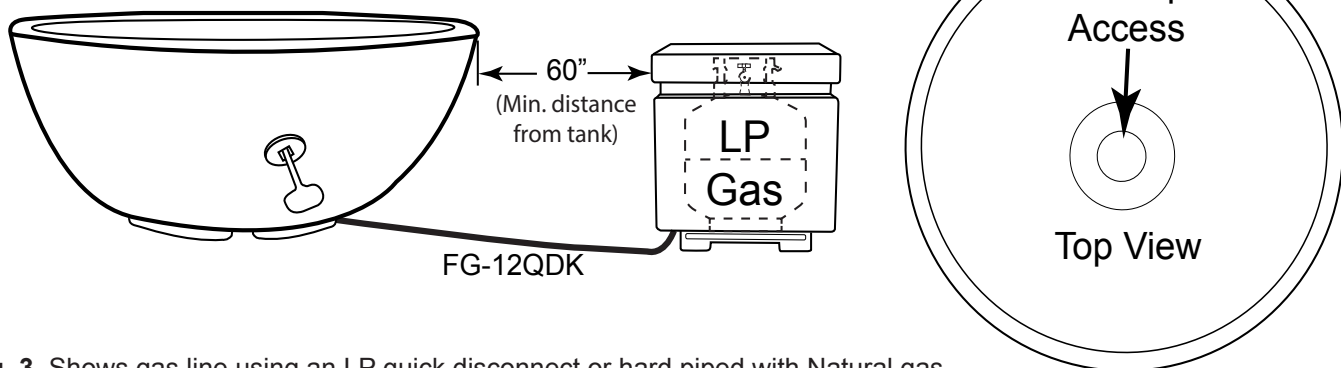

Fig 3. Shows gas line using an LP quick disconnect or hard piped with Natural gas.
The Fire Bowl can be plumbed with either Natural or Propane (LP) gas. See Fig. 3. If you choose to run hard pipe to any Fire Bowl model, enter through center (bottom) of the bowl; protrude pipe no higher than 4" above ground level.
1. Do not place an LP tank inside any fire feature enclosure. Locate all propane (LP) tanks outside the enclosure inside an approved separate enclosure a minimum of 60" from the Sanctuary Series. Flex line can run through any vent holes. If using Propane gas an FG-LPRK regulator (**not included**), must be used and a FG-12QDK quick disconnect kit (not supplied) enables the use of a Propane (LP) gas tank connection. See Fig. 3.